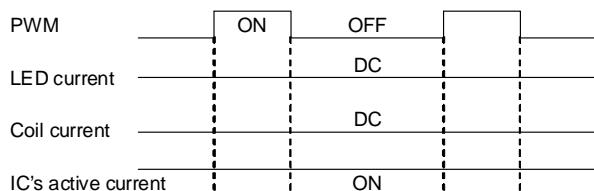

Figure 69. DC dimming
(3) DC Dimming controlled by 8bit current DAC and PWM duty for CABC, as shown in Figure 69.